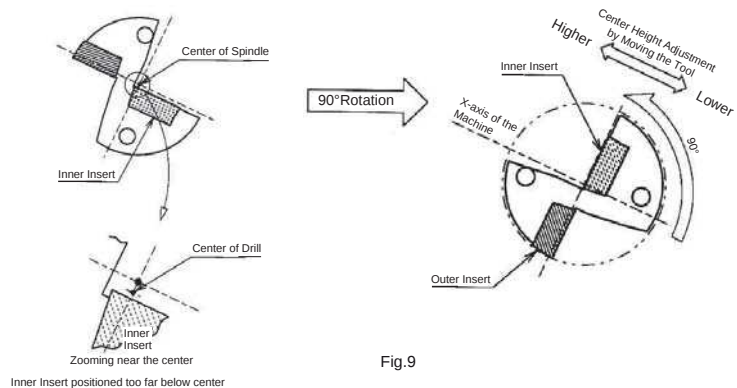

Fig.9
② If the core diameter becomes too large after the above adjustment, install the drill by rotating 90° counter-clockwise as shown in Fig.9 (outer insert is positioned lower) and adjust the center height by moving the tool in the X-axis direction. (However, this makes it impossible to adjust the cutting diameter)